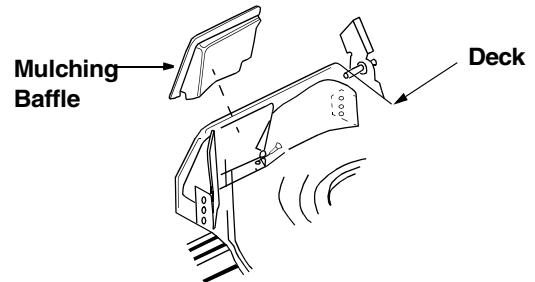

Figure 7
- To remove the mulching baffle, lift the rear discharge door on the mower. Remove the mulching baffle. See Figure 7.